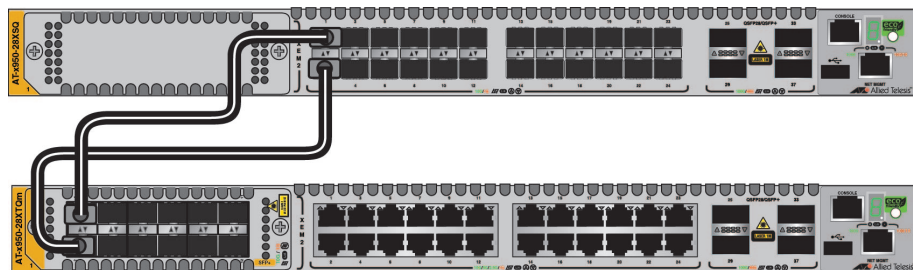

Figure 41. Unsupported Trunk of Connected Base and Line Card Ports
- ❑ Trunks cannot have links that interconnect base ports and XEM2 Line Card ports. The example trunk in Figure 41 is unsupported because base 10Gbps ports 1 and 2 in the top switch are connected to ports 1 and 2 on the XEM2-12XS Line Card in the bottom switch.